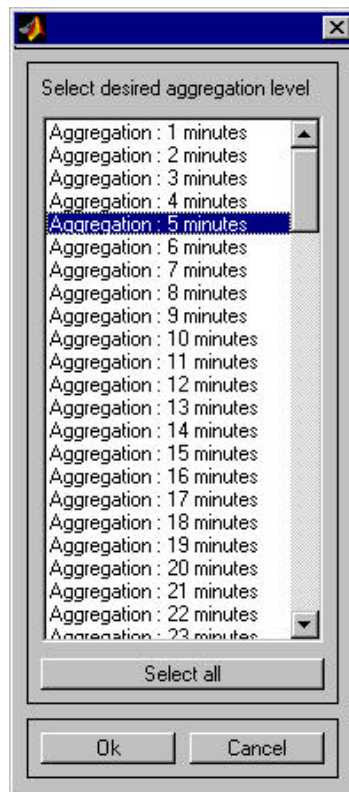

Figure 9: *Select the required aggregation level when synchronising the data*
- ◆ Select the desired aggregation level (e.g. 5 minutes), the travel times will be computed and shown in the main window (see Figure 9).